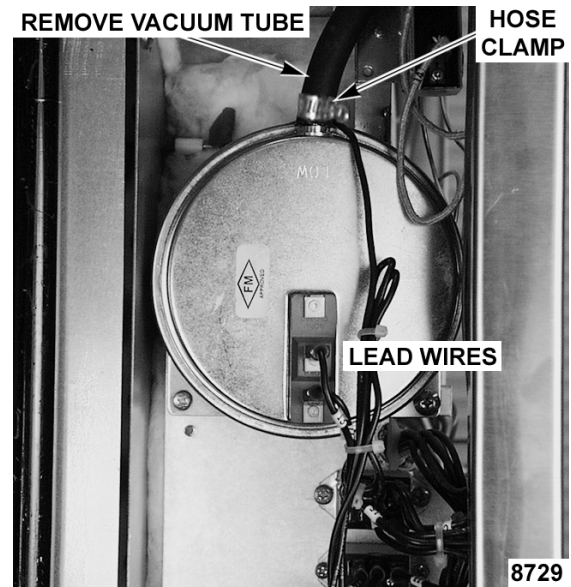

Fig. 14
- C. Loosen hose clamp (Fig. 14) and remove vacuum tube from the vacuum switch.